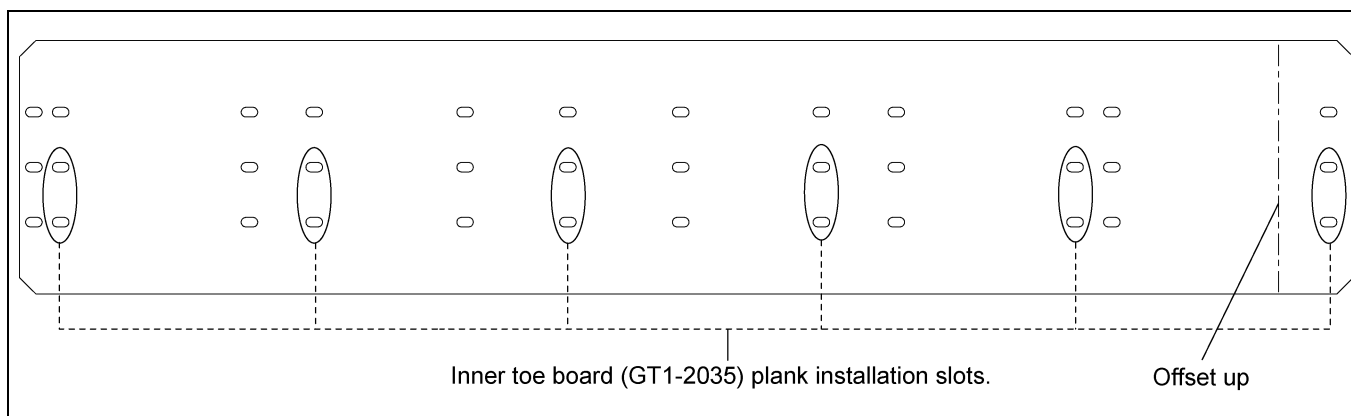

Figure 6N 30' Inner Toe Board (GT1-2035) for Offset Set and Roof Hatch Catwalks
2. Inner toe board (GT1-2035) is arranged with various slots to install plank. Install offset and roof hatch planks to corresponding slots as shown in Figure 6N.